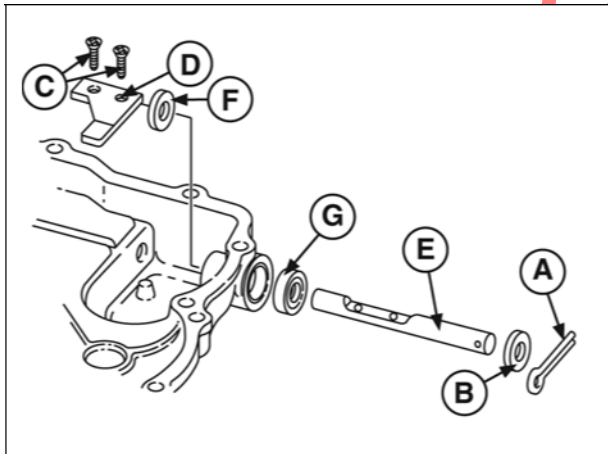

Figure 11
1. Remove cotter pin (A, Figure 11) and washer (B). Discard cotter pin.
2. Remove screws (C) and governor paddle (D) using Torx® Driver #19445. Discard screws.